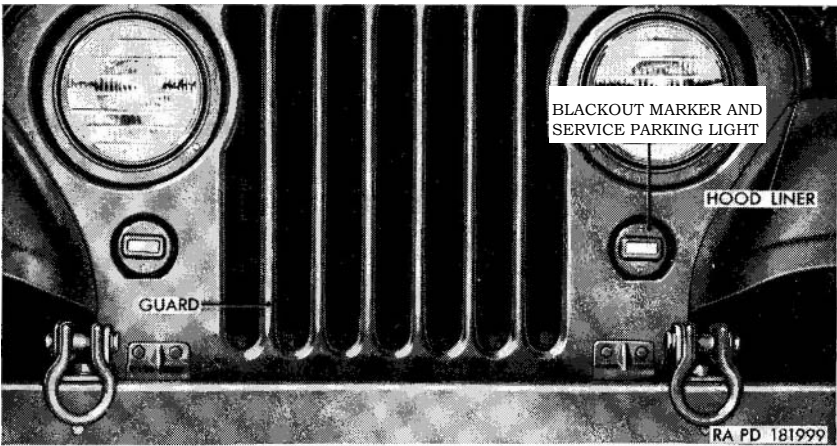

Figure 177.1. (Added) Radiator guard with hood liner 11170.
*c. (Added) Radiator Guard With Hood Liner M170* (fig. 177.1). The radiator guard is of stamped and welded construction. It is provided with recess-type housings for mounting the service headlights and signal blackout marker and service parking lights (fig. 177.1). The single bolt, washers, and nut (*fig. 16.3*) secure the radiator guard to the frame. On each side, at the top of the radiator guard, are tie rods (fig. 16.2) connecting the radiator guard to the cowl. Two bolts (fig. 16.1) on each side of the radiator secure the deflector of the guard assembly to the radiator. The hood liner (fig. 16.2) is attached to the upper edge of the guard with split rivets.